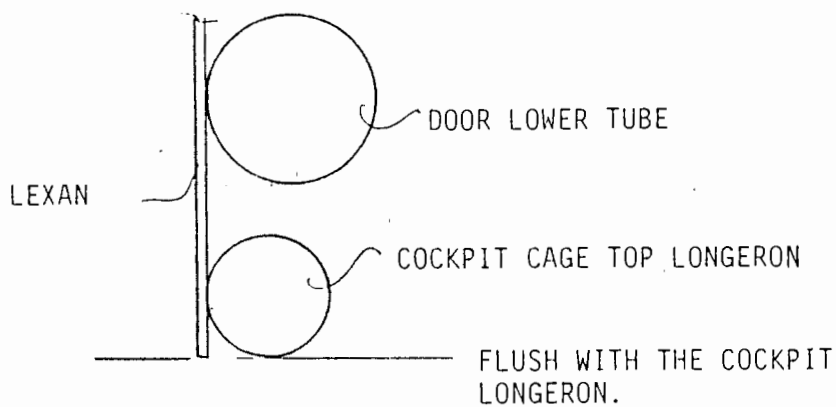
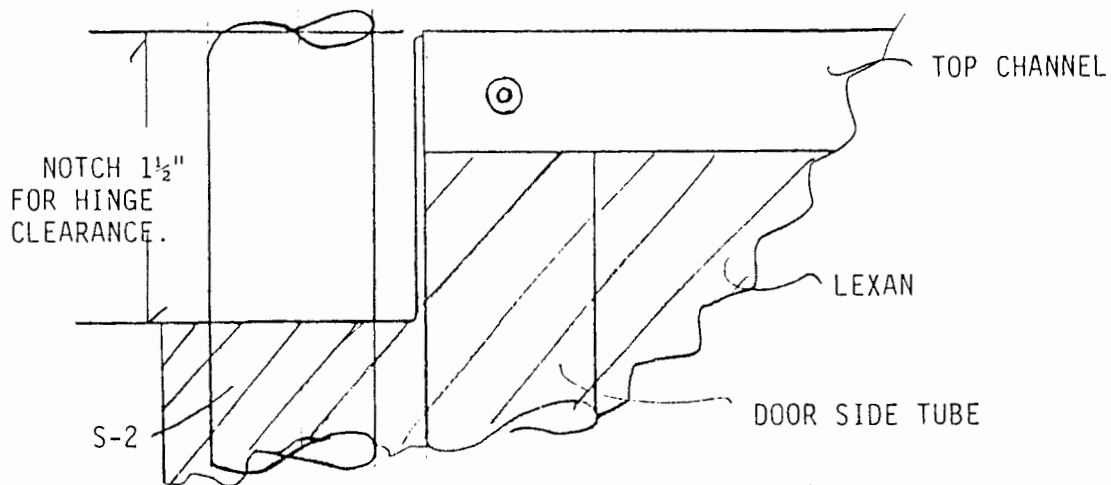

FIGURE 012-014
FIGURE 012-014A
14. With the paper removed from the edges, use masking tape to mark where the windshield and door Lexan meet. The other edges can be taped to allow overlaps as shown in Figure 012-014. Also mark out the hinge clearance notch shown in Figure 012-014A for all hinge points.